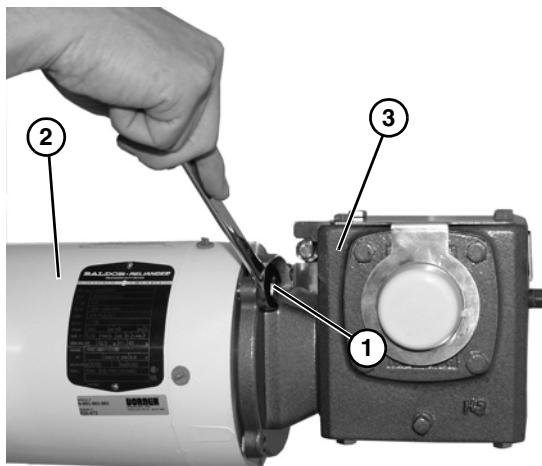

Figure 39
5. Remove four bolts (Figure 39, item 1) securing motor (Figure 39, item 2) to gear reducer (Figure 39, item 3).